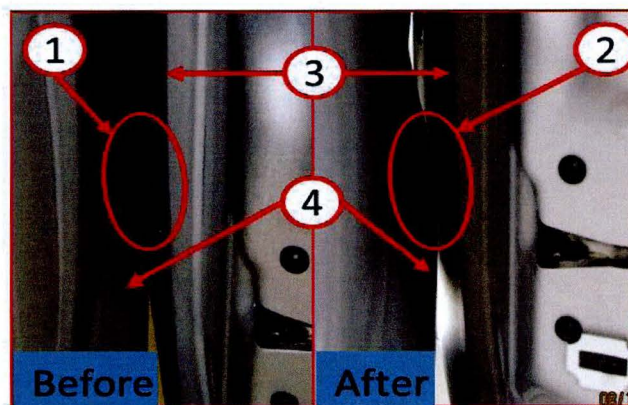

Fig. 9 Improved Panel Clearance
12. Validate door trim panel clearance to rear quarter panel (Min Gap is 3/16" / 6mm) (Fig. 9).